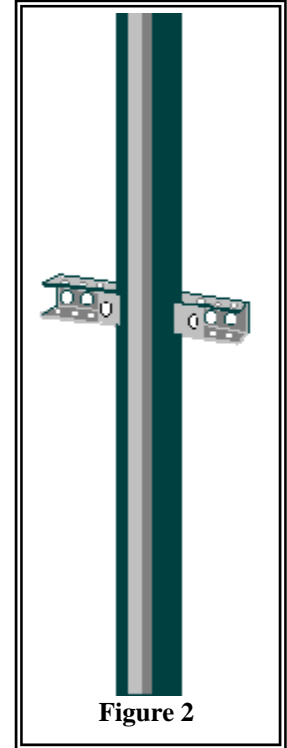

Figure 2
2. Attach the short, end rail with holes on three sides to the back of the CWT guide rail using two beam clamps, two 1/2 x 2" bolts and two spring nuts (Figure 2). Repeat steps 1 and 2 for the other CWT guide rail.